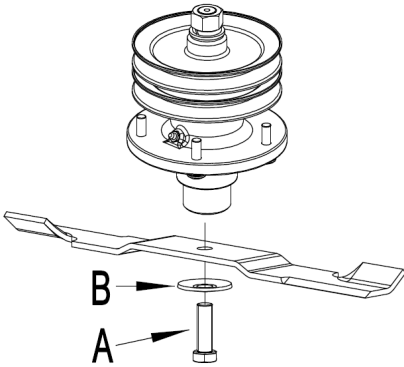

Fig. 11
Remove bolt (A), which has right-hand thread (Refer to Fig. 11). Remove lock elastic washer (B), blade.
as shown in Fig. 11. Secure with the mower blade mounting bolt and elastic washer and torque to 156-163 N.m.